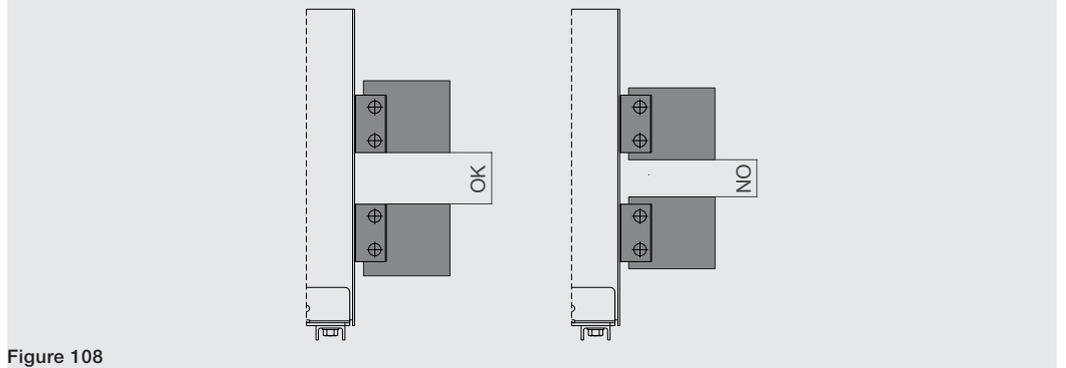

Figure 108
- Guarantee the maximum possible distance between the input and output busbars. See the example Figure 108.